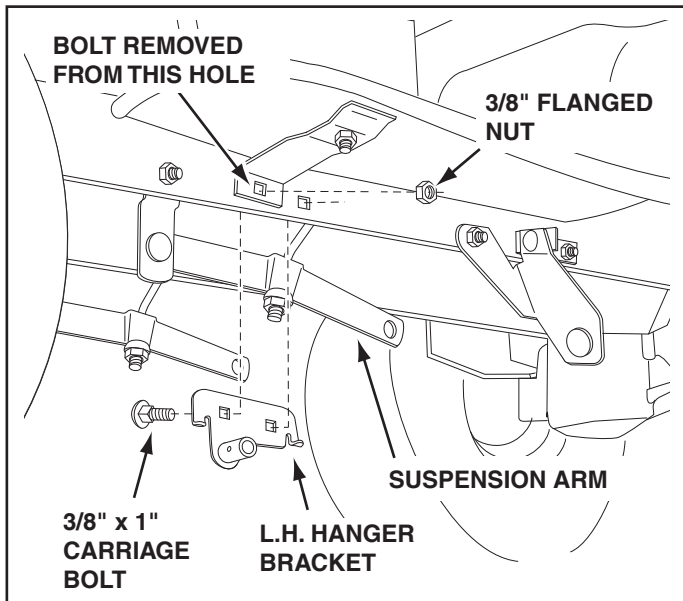

FIGURE 25
STEP 26: (SEE FIGURE 25 or 26)